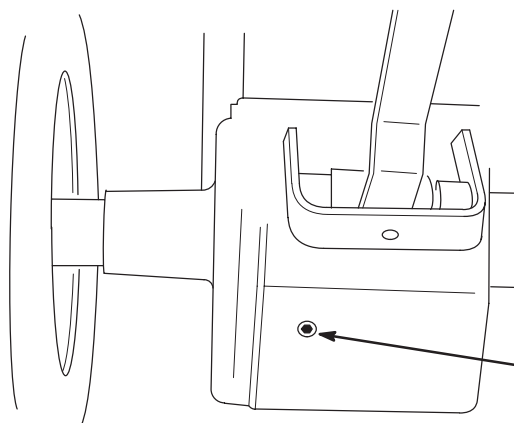

Figure 46
3. Place a pan below the transaxle drain. Open the drain by removing the plug (Fig. 46).